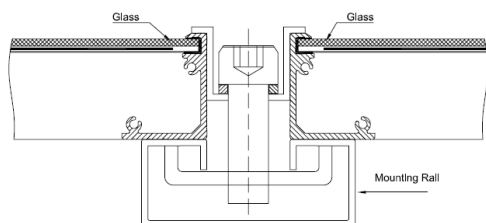

Figure 2: Clamp Mounting Example Diagram
- Clamps can be used to achieve mounting to a support structure. A minimum of four points of contact at the location (+/- 1" or 25.4 mm) of pre-drilled mounting holes should be used. See Figure 2 for typical clamp.